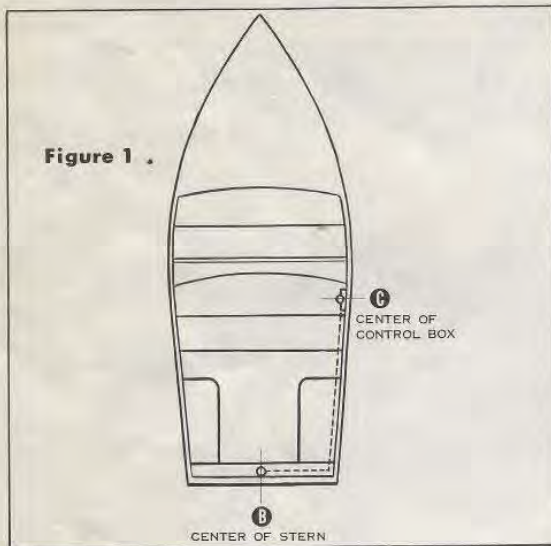

Figure 1 .
Measure the distance from center of boat at stern (A) to point at which control box is to be mounted (B). Be sure to measure along dotted line as illustrated in Figure 1. Then select the required cable lengths from the table below. Throttle and gear shift cable will be the same length for a single motor installation. For twin motor installation two cables will be of one length, two will be two feet longer.